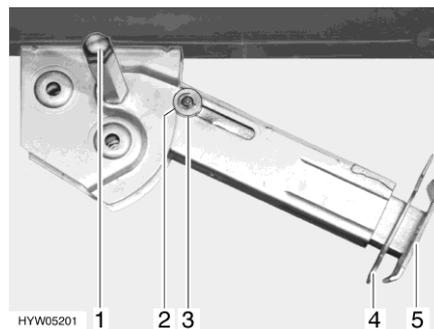

Fig. 24 Steady leg
- Place the socket spanner on the hexagon nut (Fig. 24,1) and rotate until the steady leg is in a perpendicular downward position.
- Remove the splint (Fig. 24,4) out of the support foot extension (Fig. 24,5).
- Place the socket spanner on the hexagon nut (Fig. 24,1) and rotate until the steady leg is clear of the ground.
- Push in the support foot extension (Fig. 24,5) and insert the splint (Fig. 24,4) in the drilled hole in the support foot extension.
- Rotate the hexagonal nut (Fig. 24,1) with the socket spanner until the steady leg has swung upwards and the guide disc (Fig. 24,3) has completely retracted into the notch (Fig. 24,2).